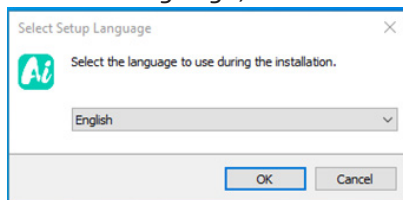

Figure 4
2. Select the installation language, as shown in Figure 4.